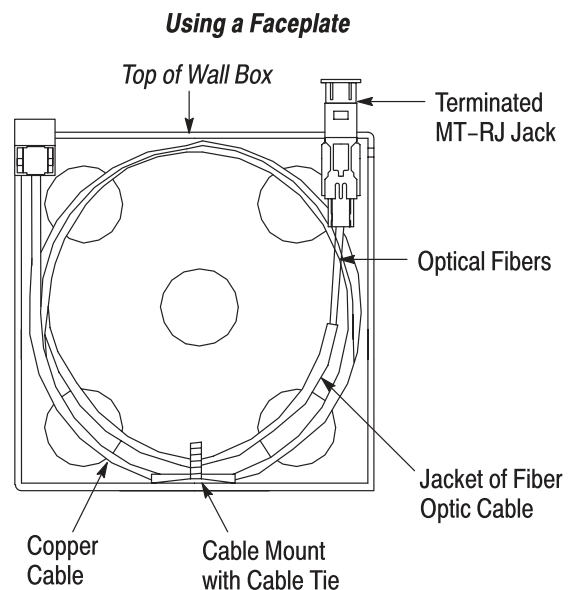

Figure 3
4. Dress the cable and fiber around the inside of the wall box, wrapping the copper cable in the opposite direction from the optical fibers. Each wrap must end “UP.” Refer to Figure 3.
5. Segregate the cable and optical fiber (as much as possible) using the cable ties and cable tie mount, or similar method. Be careful not to deform or damage the cable or fiber with the cable ties. See Figure 3.